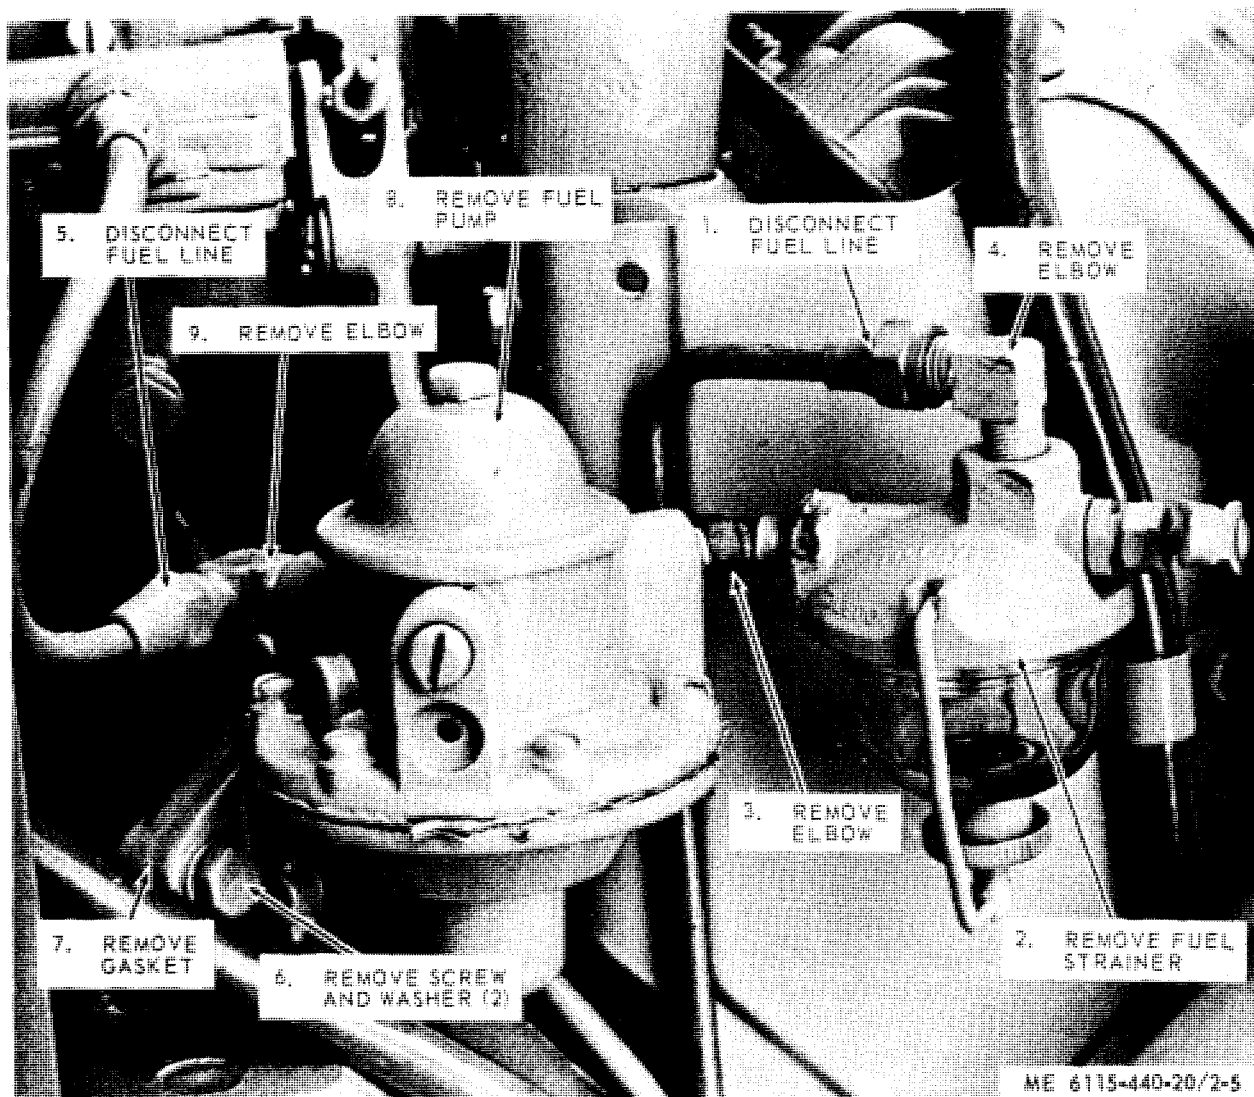

Figure 2-5. Fuel strainer and fuel pump, removal and installation.
(1) Place fuel selector valve handle in OFF position.
(2) Refer to figure 2-5 and remove the fuel strainer.
b. *Installation.* Refer to figure 2-5 and install the fuel strainer.
(2) Refer to figure 2-5 and remove the fuel pump.
b. *Installation.* Refer to figure 2-5 and install the fuel pump.